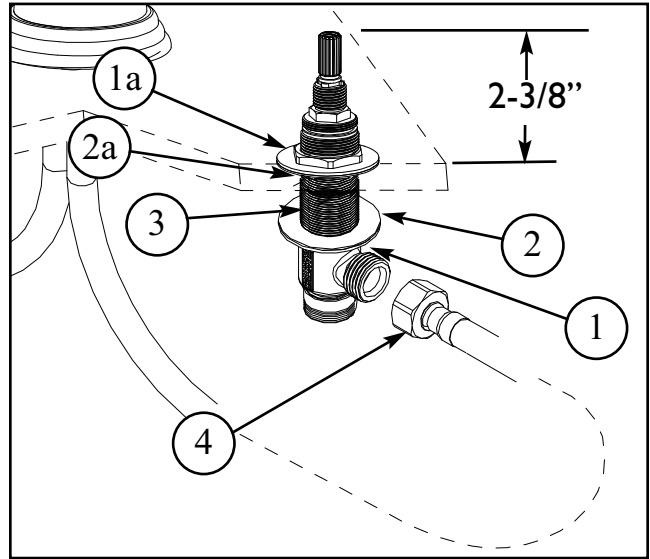

Figure 2
2. Place flange NUT (1) and fiber WASHER (2) onto valve BODY (3). Insert valve BODY (3) through sink hole from underside of sink. Valve BODY (3) should extend: 2-3/8" above mounting surface. If necessary adjust lower flange NUT (1). Place fiber WASHER (2a) and flange NUT (1a) onto upper position of valve BODY (3). Set valve BODIES (3,3A) so that their outlets are facing towards the center of the sink and tighten upper flange NUT (1a). See Figure 2.
3. Connect HOSE (4) to outlet of each valve BODY (3,3a). (Red to HOT and Blue to COLD). Hand tighten and secure each HOSE (4) with a wrench 1/4 turn. See Figure 2.